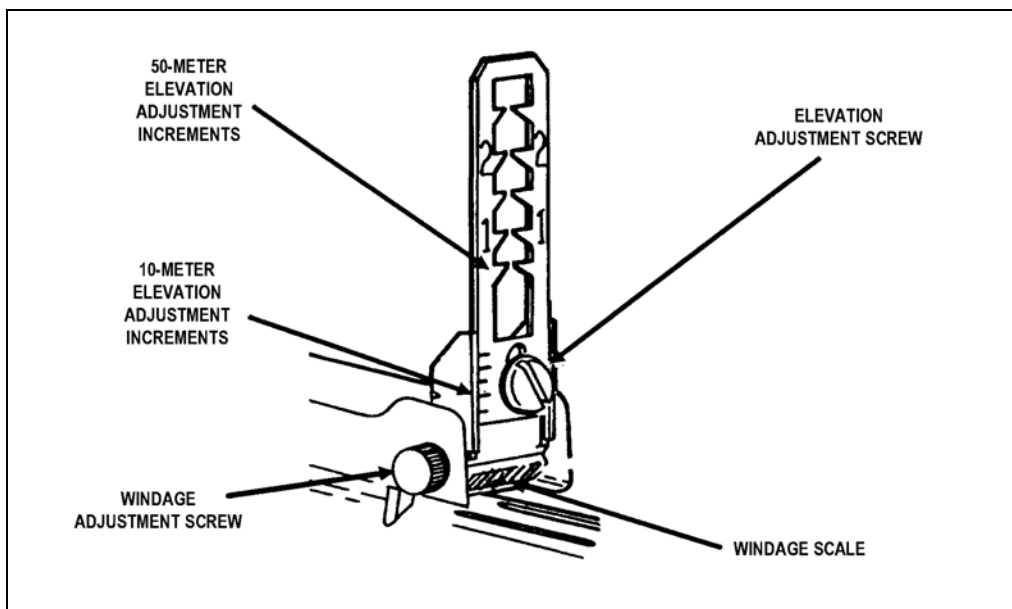
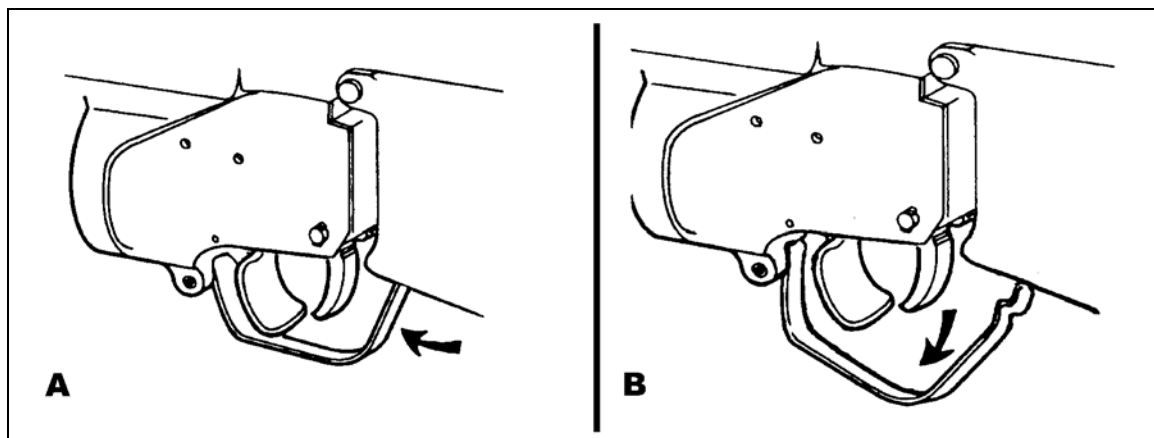

Figure 3-6. Leaf sight assembly.
Figure 3-7. Trigger guard.
f. **Leaf Sight Assembly.** The leaf sight assembly is attached to the top of the handguard (Figure 3-6, on page 3-6). The leaf sight assembly consists of the sight, its base and mount, an elevation adjustment screw, and a windage adjustment screw. Elevation and windage scales are marked on the mount. The folding, adjustable, open ladder design of the sight permits rapid firing without sight manipulation. The front sight post of the M16-series rifle serves as the front aiming post for the M203 leaf sight.
f. **Trigger Guard.** The trigger guard protects the trigger (A, Figure 3-6). Depressing the rear portion of the trigger guard rotates it down and away from the magazine well of the rifle, which allows the weapon to be fired while the firer is wearing gloves or mittens (B, Figure 3-7).